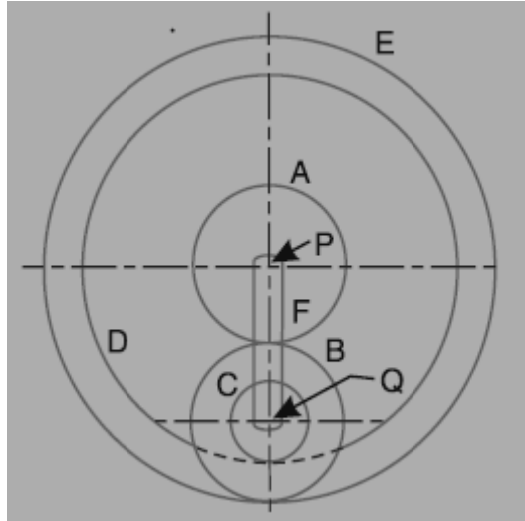

Fig.5
- (a) A compound epicyclic gear is shown diagrammatically in Fig.5. The gears  $A$ ,  $D$  and  $E$  are free to rotate on the axis  $P$ . The compound gear  $B$  and  $C$  rotate together on the axis  $Q$  at the end of arm  $F$ . All the gears have equal pitch. The number of external teeth on the gears  $A$ ,  $B$  and  $C$  are 18, 45 and 21 respectively. The gears  $D$  and  $E$  are annular gears. The gear  $A$  rotates at 100 r.p.m. in the anticlockwise direction and the gear  $D$  rotates at 450 r.p.m. clockwise. Find the speed and direction of the arm and the gear  $E$ .